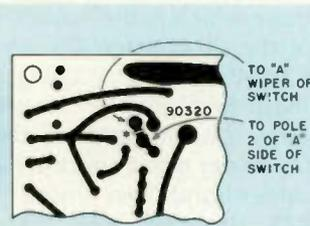

Fig. 5. Corner of foil side of control board showing location of foil trace requiring break and wiring for section A side of DPDT switch.
e. Turn the board to the foil side and locate the foil trace which is the junction of the Q2 emitter, D6, and K2 coil. See Fig. 5. Using a sharp knife or file, scrape away the foil between the D6 solder point and the K2 solder point. Two pieces of #22 stranded wire were used for the connection at this point. One wire was soldered to the K2 side of the break and the other wire soldered to the D6 side of the break.